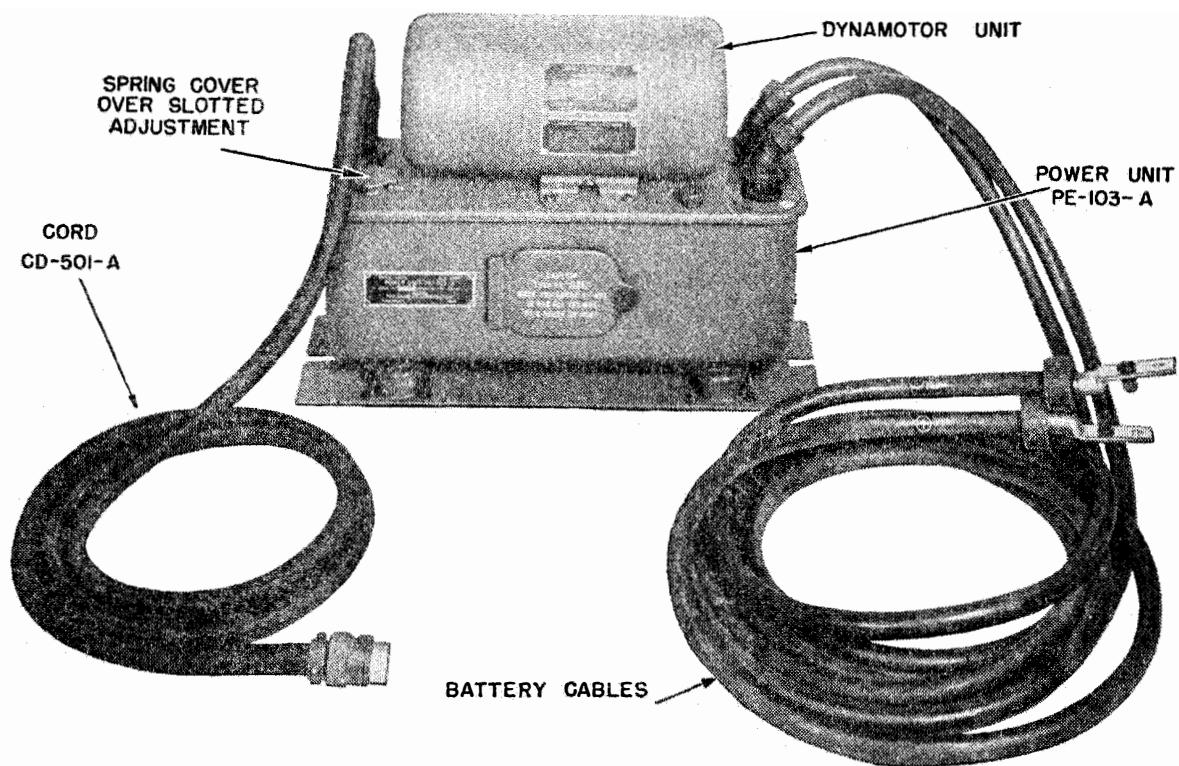

FIG. 3. POWER UNIT PE-103-A
e. Power Unit PE-103-A:— (FIG. 3)